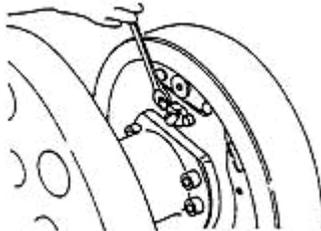

figure 2-20
(5) Disassemble the brake tube from the driven brake pump, and disassemble the assembling bolts on the subsidiary brake pump. Then disassemble the subsidiary brake pump from brake device motherboard. See figure 2-20